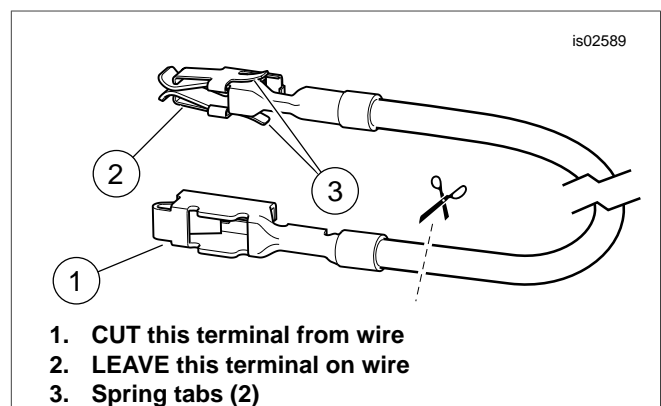

Figure 3. Fuse Block Adapter Wire (Dyna and Softail)
- Obtain the orange/white fuse block adapter wire (6) from the kit. Note the terminal on each end (see Figure 3). Only the terminal **WITH the spring tabs** will fit into the fuse cavity. Carefully cut the terminal **WITHOUT** spring tabs from the wire and discard it.
3. Obtain the orange/white fuse block adapter wire (6) from the kit. Note the terminal on each end (see Figure 3). Only the terminal **WITH the spring tabs** will fit into the fuse cavity. Carefully cut the terminal **WITHOUT** spring tabs from the wire and discard it.